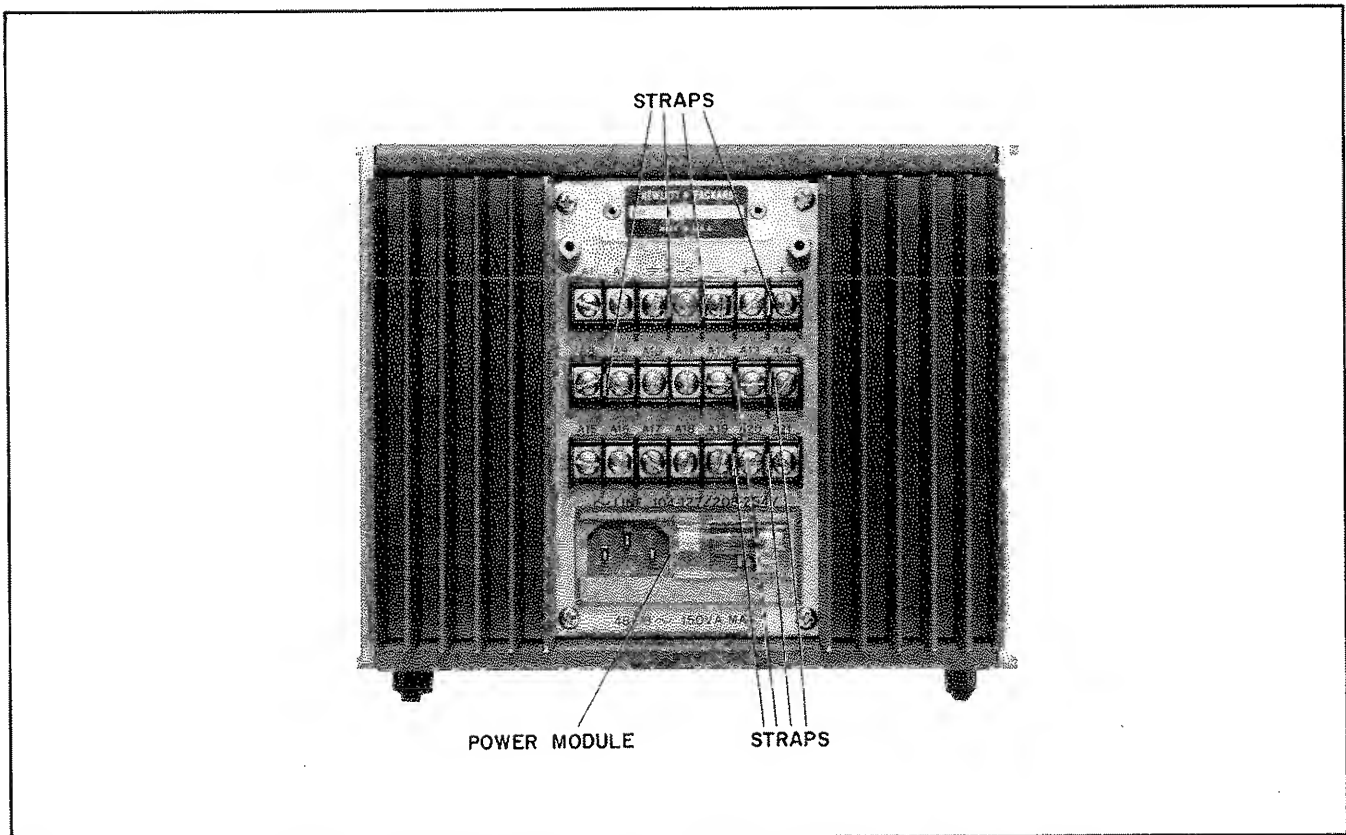
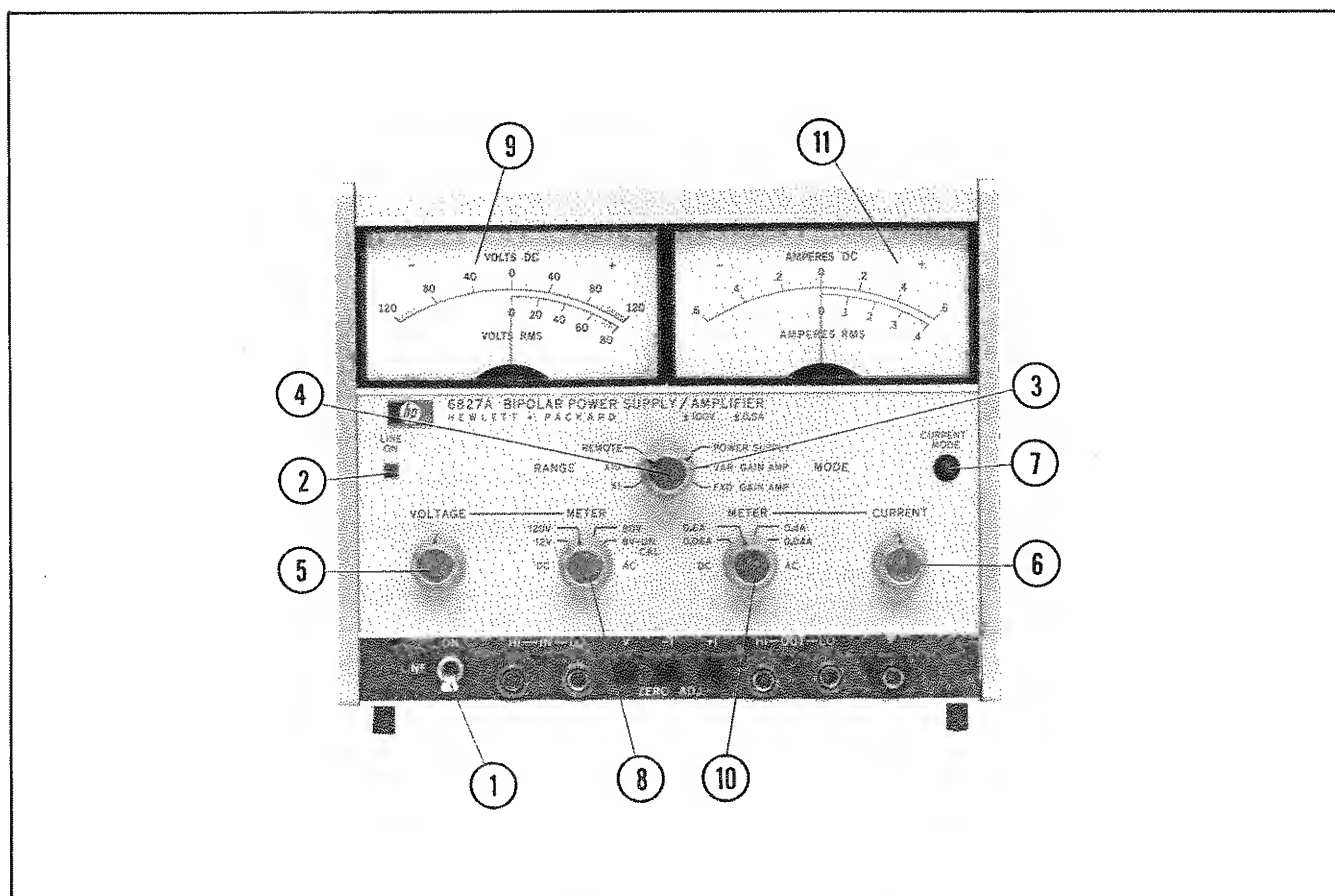

Figure 3-1. Bipolar Power Supply/Amplifier, Models 6826A and 6827A, Rear View
Figure 3-2. Operating Controls and Indicators
3-4 The Bipolar Power Supply/Amplifier (BPS/A) is shipped with the rear terminals strapped for local programming (using front panel controls) as shown in Figure 3-1. Remote programming strapping requirements are described in subsequent paragraphs. The power module contains fuse F1 (2A for 115Vac or 1A for 230Vac) and a slide switch for connecting 115Vac or 230Vac input power to the instrument. To turn on the BPS/A, set the LINE switch (item ①, Figure 3-2) to ON. The LINE ON indicator ②
3-21 The following turn-on and checkout procedures are performed utilizing the front panel controls (Figure 3-2) and the normal rear terminal strapping connections as received from the factory.